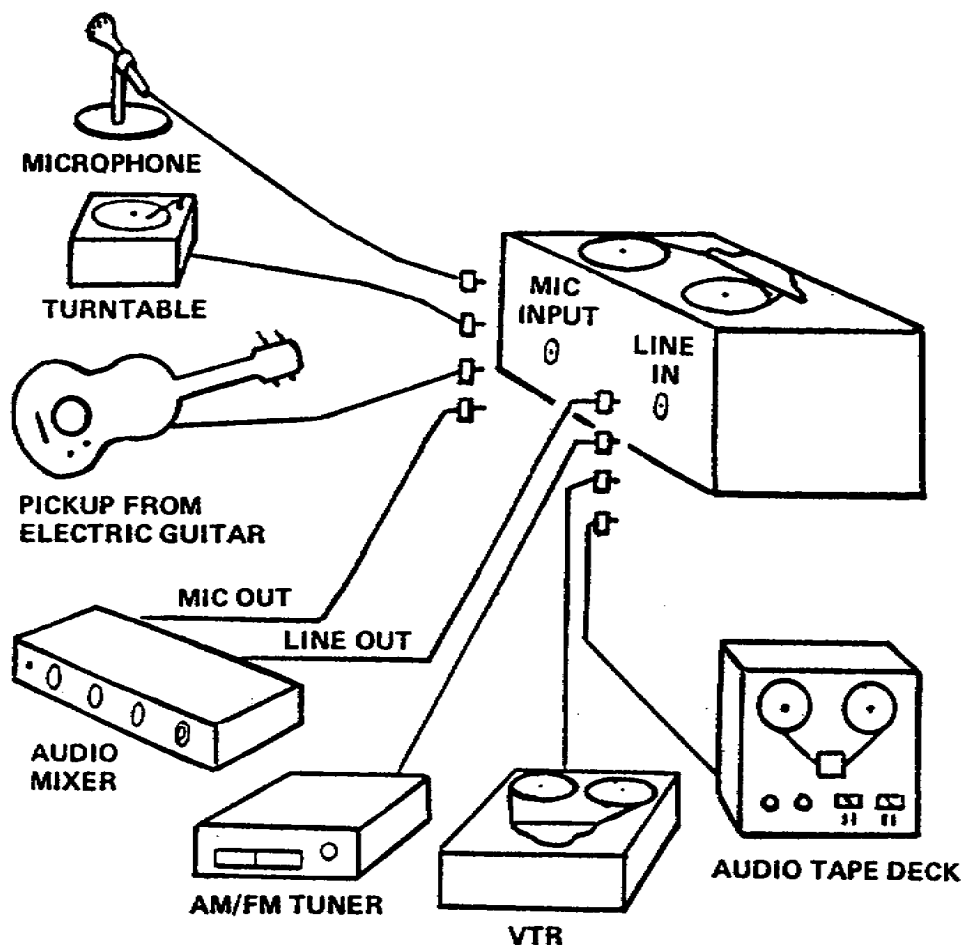

Figure 3-15. High and low level audio sources
c. Recording on a video cassette requires video and audio inputs. When recording, the connections to the machines must be made in addition to those required in playback. A difficult aspect of recording is in making the proper connection (fig 3-15).
d. Two video inputs are provided to the record electronics on the machines. The simplest for the operator is that from the internal TV tuner. This requires no connections other than the antenna at the rear of the machine, where a normal TV or CATV antenna or lead is connected. The input select switch is set to the int or TV position, and this switches the video and audio to the input of the machine. The other video input is a video in socket which enables various external sources to be connected. In this mode the select switch is set to the ext position, which routes the video and audio inputs to the record amplifiers (fig 3-15).
e. A microphone can be plugged into the mic input (fig 3-15). Either channel can be used in the normal record mode, but only Channel 1 if audio dubbing. Most microphones will work but it is advisable to check with a test recording first. Levels and the impedance may not be suitable.